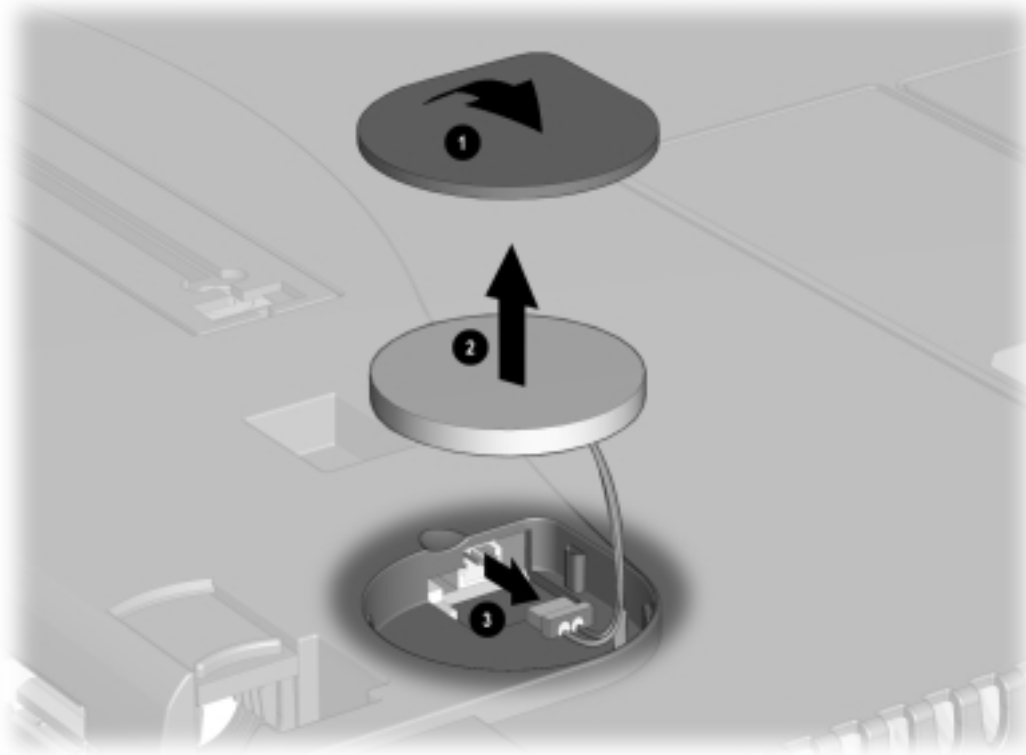

Figure 5-13. Removing the RTC Battery
3. Remove the RTC battery cover by lifting it at the indentation ❶ (Figure 5-13).
4. Remove the battery from the base enclosure ❷.
5. Use the connector removal tool to disconnect the RTC battery cable from the system board ❸.